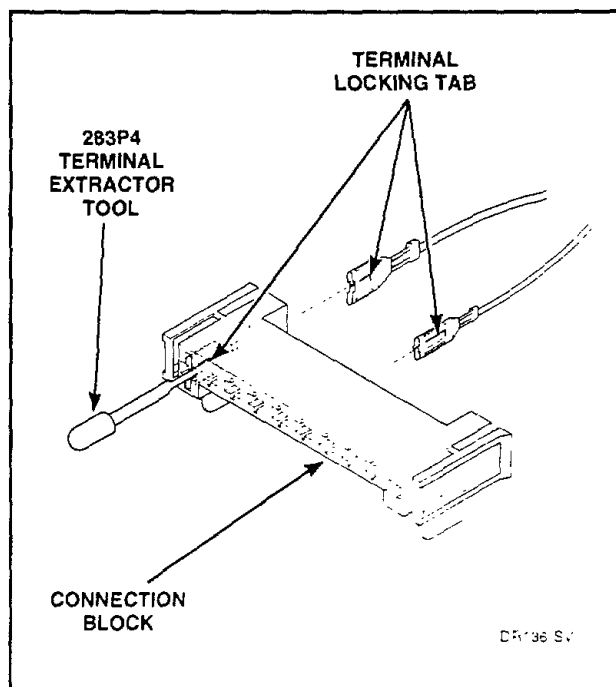

Figure 36
- (1) Insert the tool into the block on the back of the terminal being removed, *Figure 36*.
- (2) Apply tool pressure to compress the terminal locking tab on terminal and force the terminal and wire out back side of connection block, *Figure 36*.